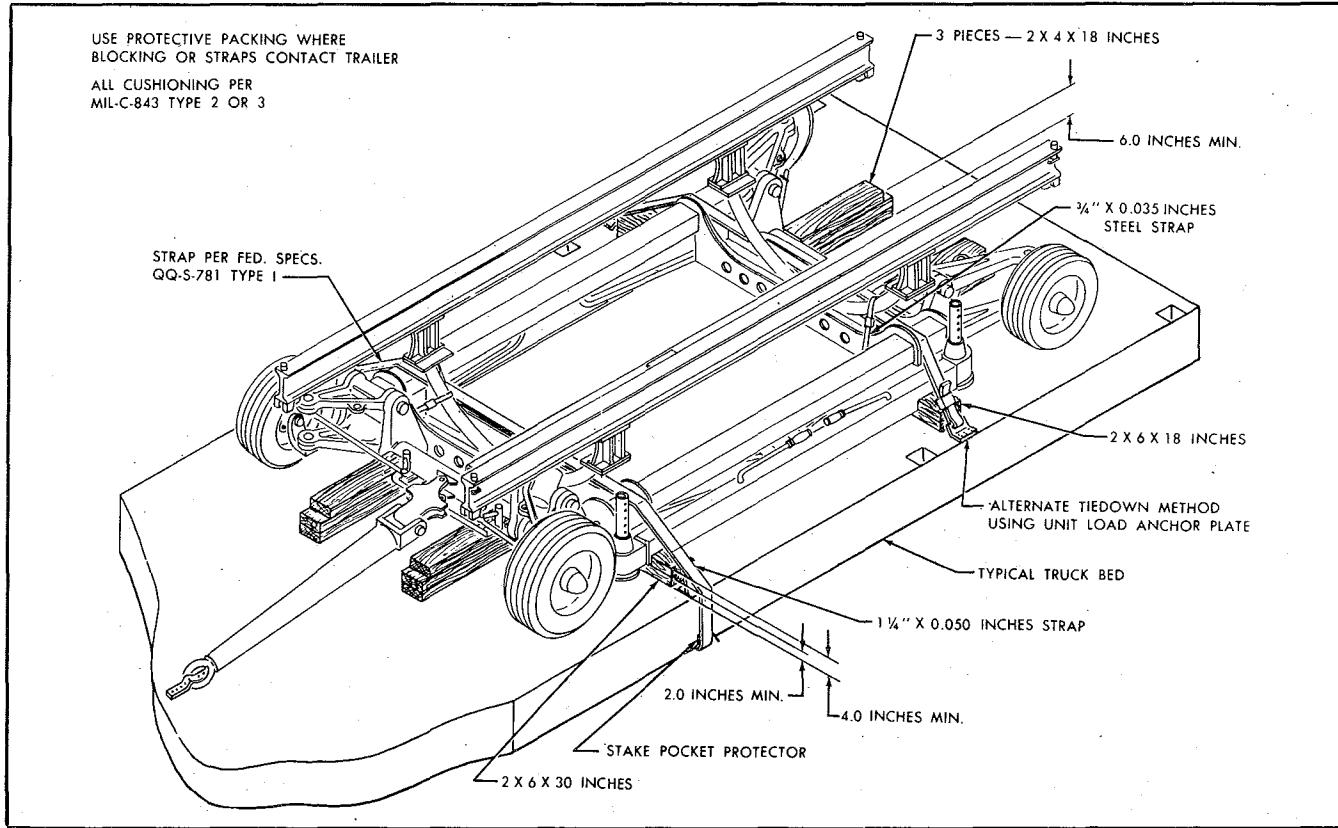

Figure 4-2. Tie-Down For Truck Shipment — Long Distance
(See figure 4-2.)
- 4-9. After positioning the trailer on the truck bed, locate the four (4) 2 x 6 x 30 wood blocks under the main frame, as shown in Figure 4-2 and lower the main frame (see Paragraph 2-5, Section II) so that the
- 4-10. Locate the 2 x 4 and 2 x 6 wood blocking for end and side movement, as shown in Figure 4-2, and nail blocking to truck bed.
- 4-11. Tie trailer down using 1-1/4 inch wide by .050 thick steel strapping per Federal Specification QQ-S-781, Type I, as shown in Figure 4-2. If stake pockets are available on the truck and suitably located, secure steel strapping to stake pockets. If stake pockets are not available, not suitably located, or cannot be utilized, secure ends of steel strapping to truck bed using unit-load anchor plates nailed securely to truck bed.
Steel strapping shall *not* pass over the top of the aluminum transfer rails of the trailer, but over the end channels of the upper frame assembly, as illustrated in Figure 4-2, between the
4-15. After positioning the trailer on the truck bed, locate the four (4) 2 x 6 x 3 wood blocks under main frame, as shown in Figure 4-2 and lower the main frame (see Paragraph 2-5, Section II) so that the main frame rests on the blocks and the trailer weight is off the wheels.